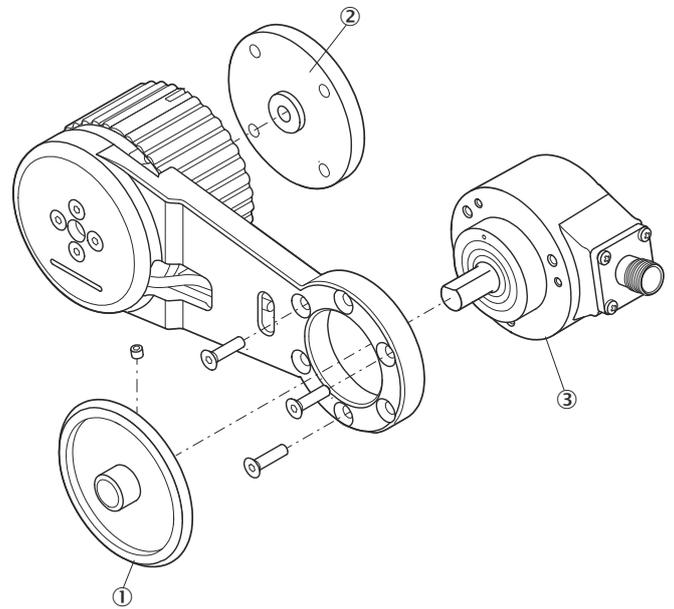
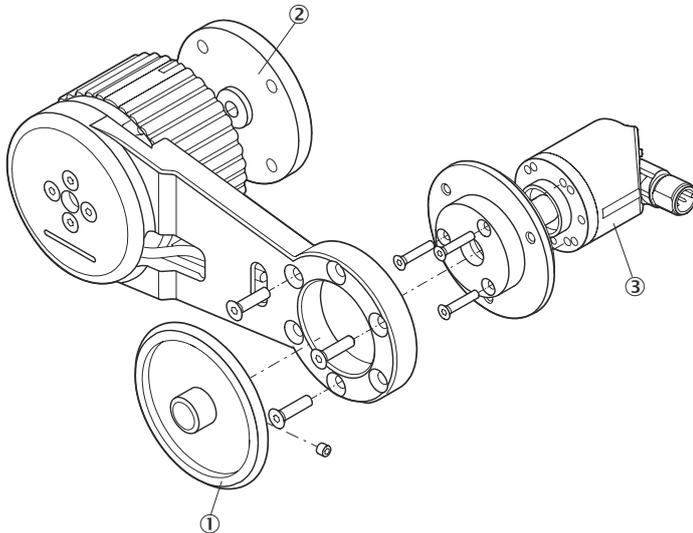

Figure 7: Mounting the encoder Ø 60 and wheel
Figure 6: Mounting the encoder Ø 36 and wheel
- To reach the screws, the adaptor plate (see figure 6) needs to be removed from the device locker.
- ▶ The installation of the measuring wheel is illustrated in figure 6 and figure 7. When installing the Measuring wheel, the wheel set screw needs to be secured with a torque force of 1.5 N. An additional screw locker glue can be added to prevent the loosening of the set screw.
- ▶ The device needs to be loosened from the adaptor plate. As shown in figure 6 and figure 7.